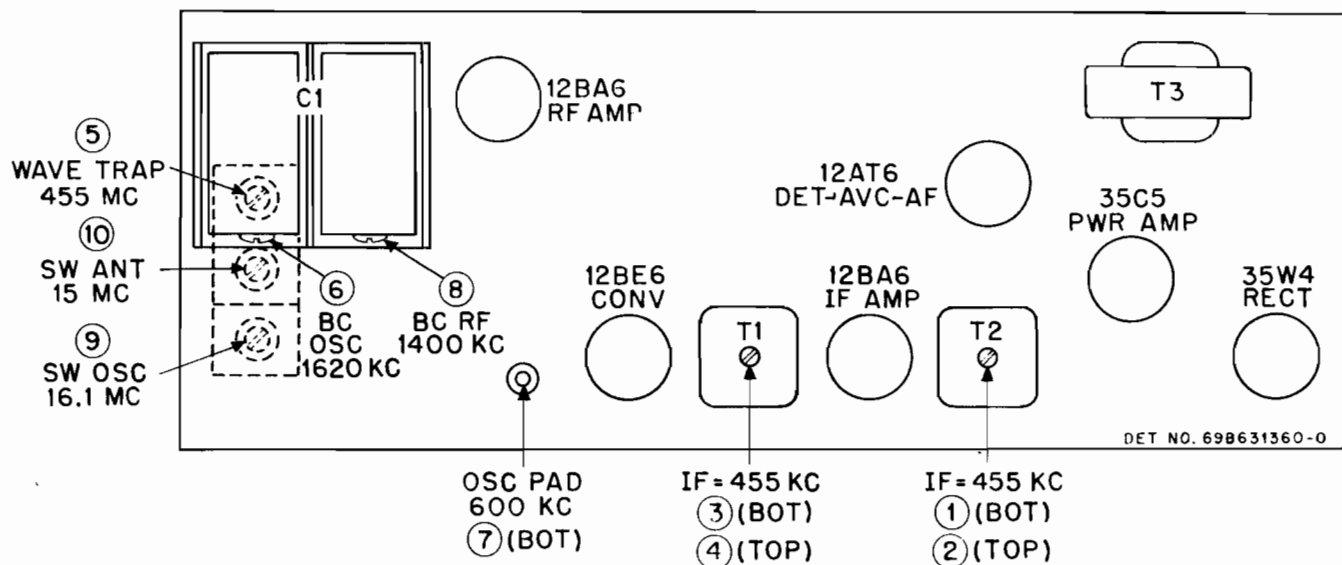

FIGURE 3. TUBE AND TRIMMER LOCATIONS
7. See Figure 3 for adjustment locations and the following chart for procedure. NOTE: The BC band must be aligned before SW. If the BC trimmers are adjusted, the SW must also be realigned.